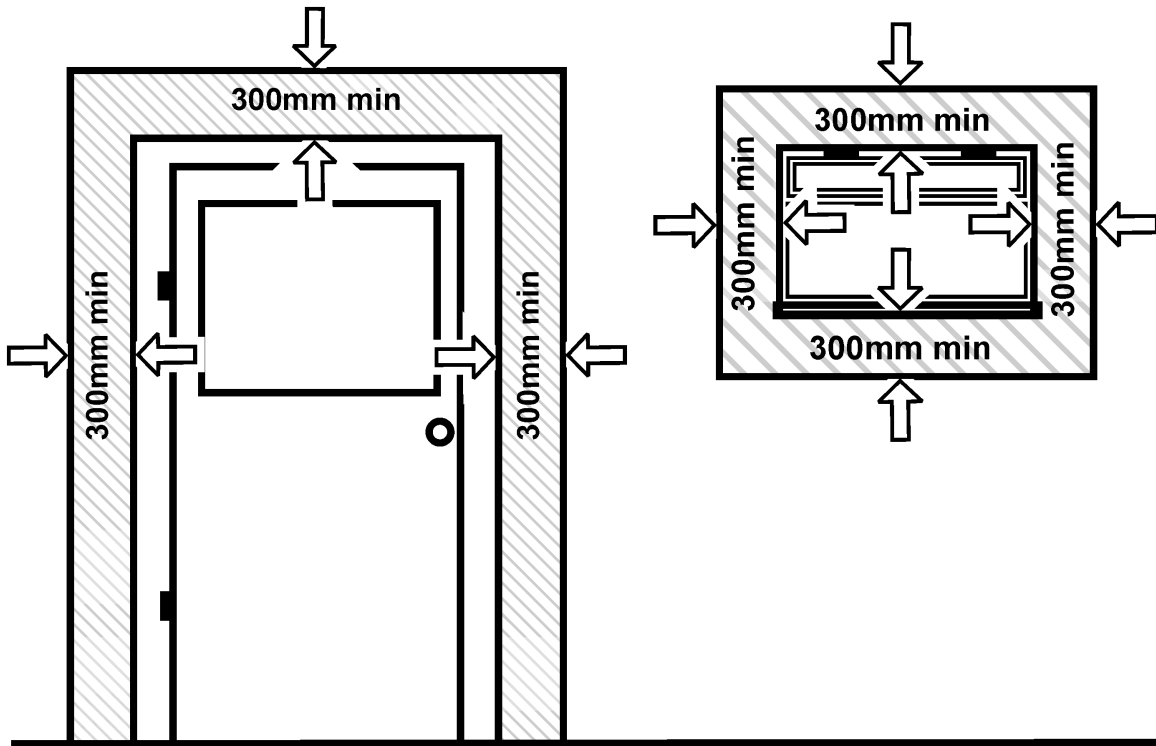

Fig. 4
*In addition, the terminal should not be nearer than 300mm to an opening in the building fabric formed for the purpose of accommodating a built-in element such as a window frame or door frame (See figure 4).